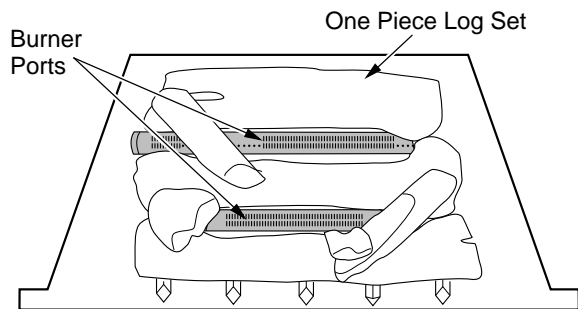

Figure 25 - Installing One Piece Log Set (Top View)
**IMPORTANT:** Make sure log does not cover any burner ports (see Figure 25, page 14).